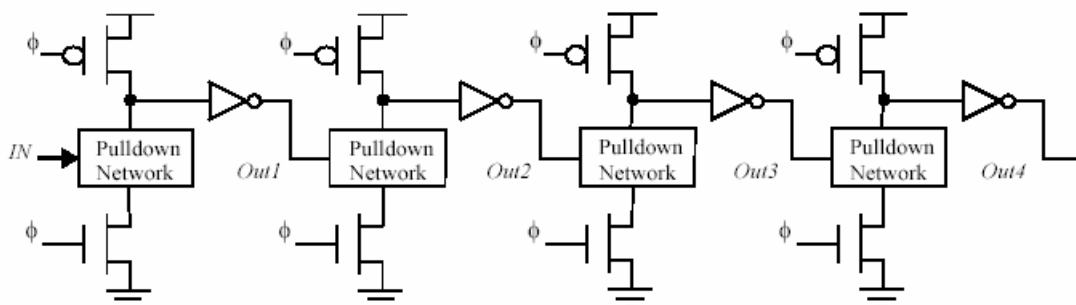

Figure 4.3
4. **Dynamic Logic:** Consider a conventional 4-stage Domino logic circuit as shown in Figure 4.3 in which all pre-charge and evaluate devices are clocked using a common clock ϕ . For this entire problem, assume that the pull-down network is simply a single NMOS device, so that each Domino stage consists of a dynamic inverter followed by a static inverter. Assume that the pre-charge time, evaluate time, and propagation delay of the static inverter are all $T/2$. Assume that the transitions are ideal (zero rise/fall times).